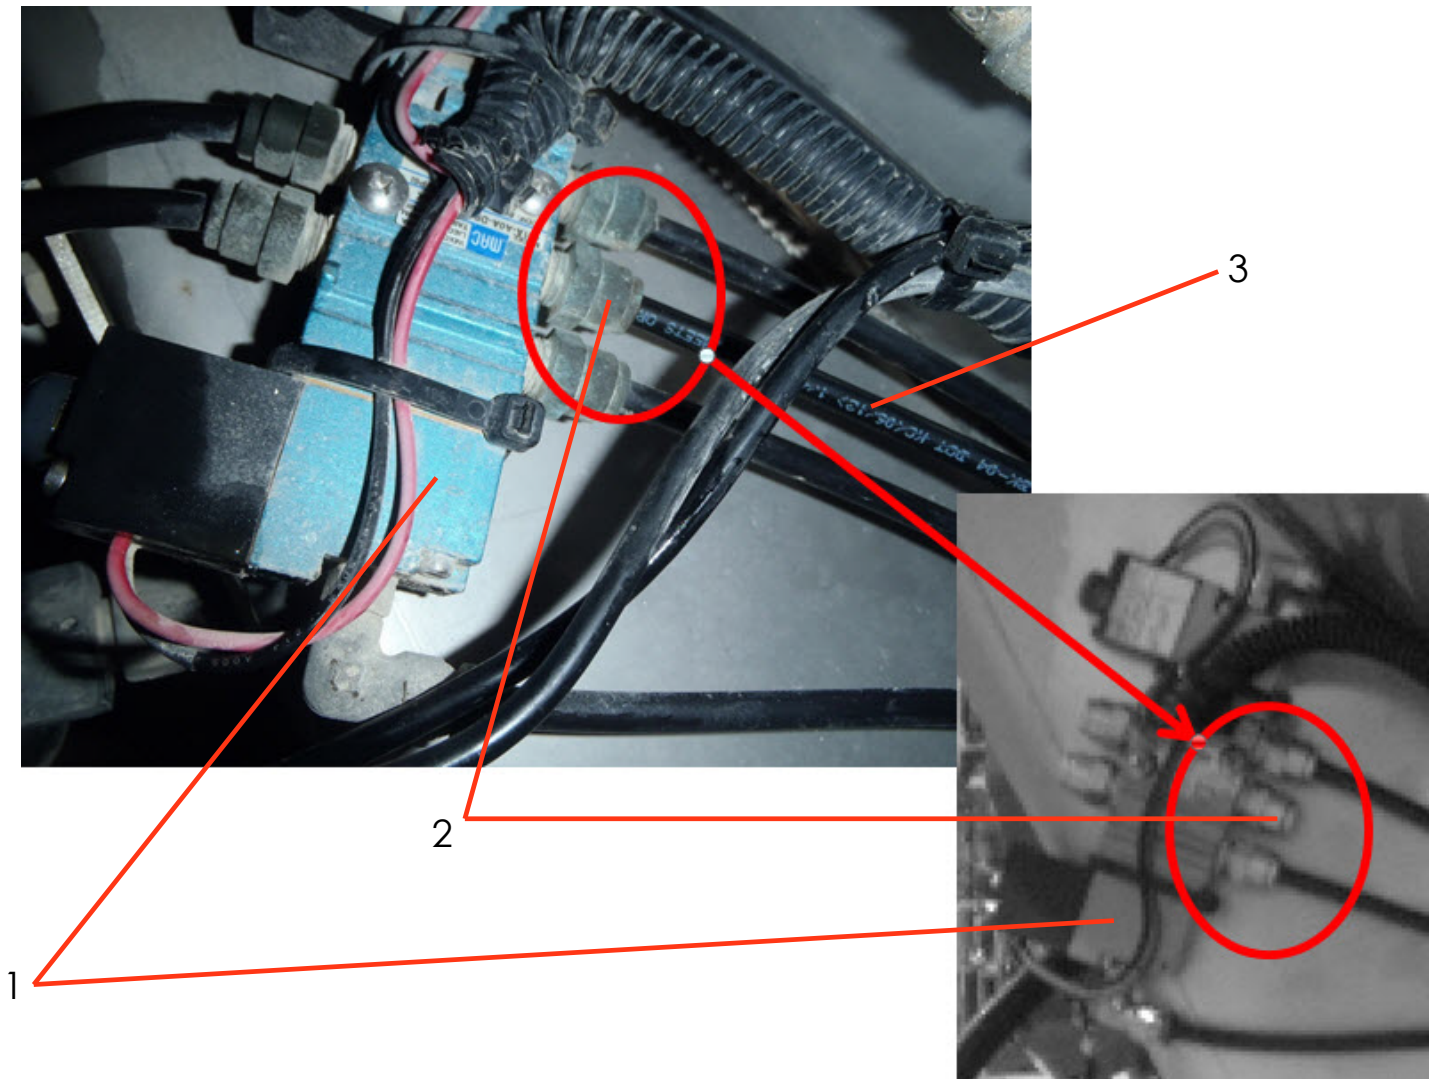

Figure 18
18. Figure 18 - On right-hand front corner of spreader, remove air supply tube (3) from control valve inlet fitting (2) on control valve assembly (1).